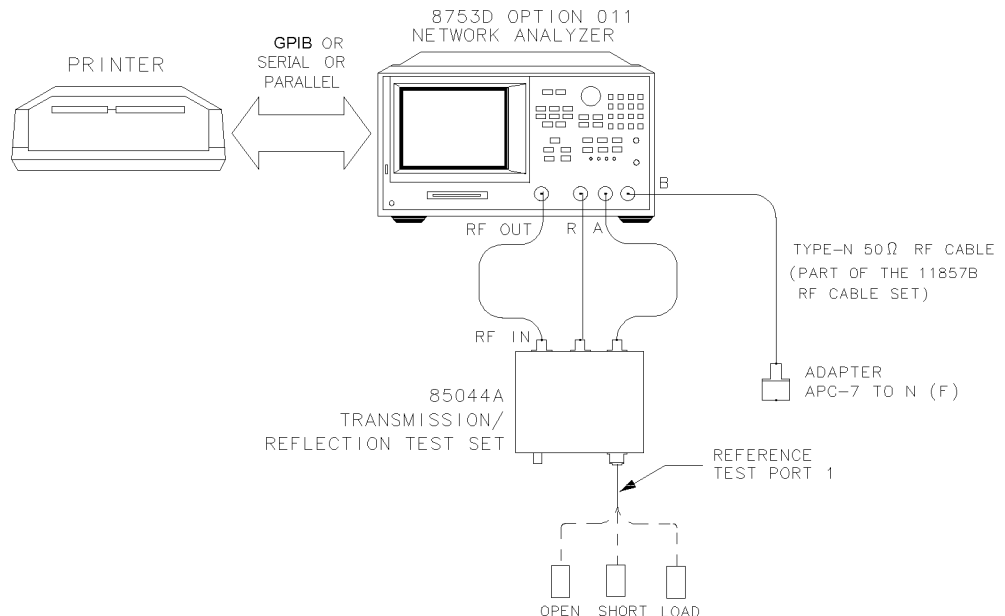

Figure 5-9. Connections for Measurement Calibration Standards
- 4** Connect the “open” end of the open/short combination (supplied in the calibration kit) to reference test port 1, as shown in Figure 5-9.
- 6** When the analyzer finishes measuring the standard, connect the “short” end of the open/short combination to reference test port 1, as shown in Figure 5-9.
- 8** When the analyzer displays the message *CONNECT STD THEN PRESS KEY TO MEASURE*, connect the 50 ohm termination (supplied in the calibration kit) to reference test port 1, as shown in Figure 5-9.